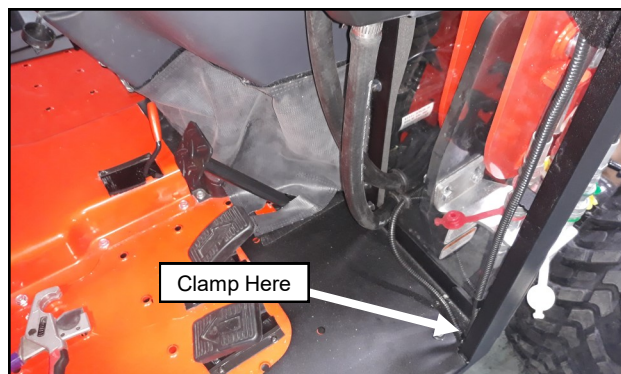

Fig. 13.4 (Wiring at Floorboard)
13.4 See fig. 13.4. Connect the heater bullet connectors to the wiring harness. Route the wires to the right along the cowl and side frame. Route the wire down along the frame and install another clamp at the corner of the frame and floorboard. Cover the exposed wires behind the heater with 1/2" split loom provided.